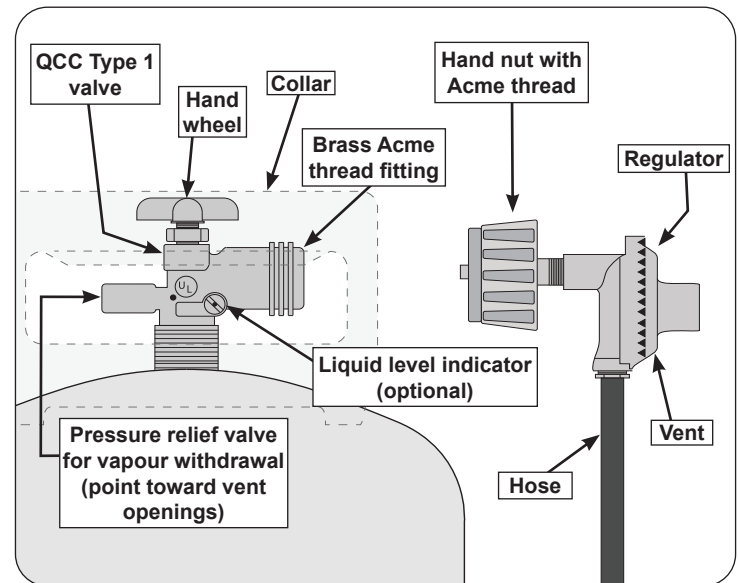

Fig. 9-1 Type I Acme thread coupler
- d. The cylinder used must include a collar to protect the cylinder valve. The cylinder supply system must be arranged for vapour withdrawal. See Fig. 9-1.
- e. When used with a cylinder, the gas supply system must be used with a pressure regulator. The pressure regulator and hose assembly (**not supplied**) used must match the specification for Type I by ANSI Z 21.58/CGA 1.6 and must comply with UL 144 as a part of the self-contained LP gas supply system (see Fig. 9-1).
To disconnect: Turn the hand nut counterclockwise until detached (Fig. 9-1).